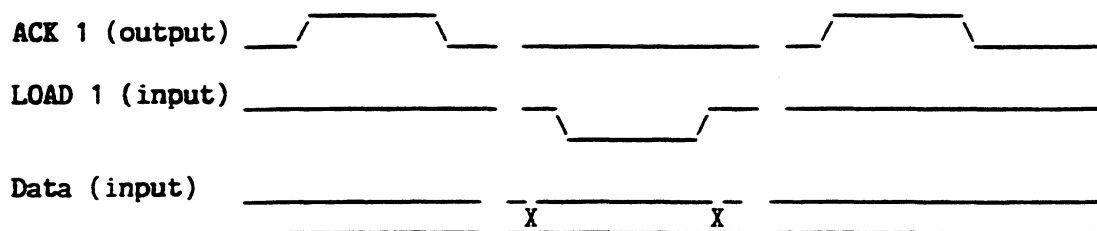

Figure 168-3. Handshake Type One Timing Diagram
Counter U34, flip-flops U20 (labeled F and G), and gates U12, U13, U15, U16, and U18 comprise the type one handshake circuit. Refer to Figure 168-3. Immediately following power on, the circuit is in its initial state with both flip-flops reset. One clock pulse after the counter output (P) transitions to a logical one, flip-flop G sets, generating the leading edge of the ACK1 output pulse. Approximately 32 microseconds later, P returns to the logical zero state, then flop-flop F is set and the trailing edge of ACK1 is generated.